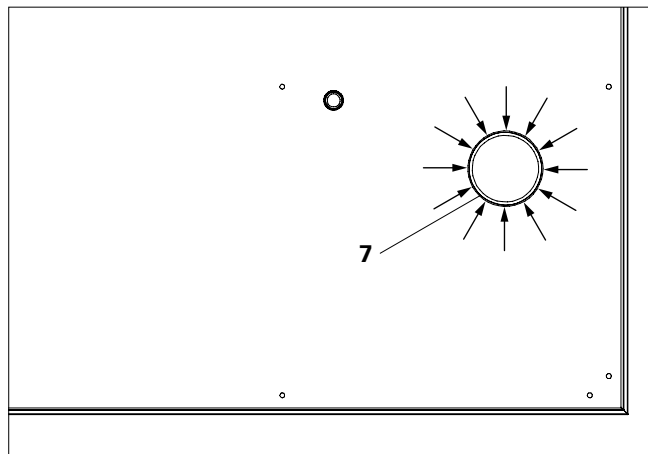

Fig. A.06
4. Joint on the formlining side is elastically sealed all-round. Use silicone-free, removable sealant (7). (Fig. A.06)